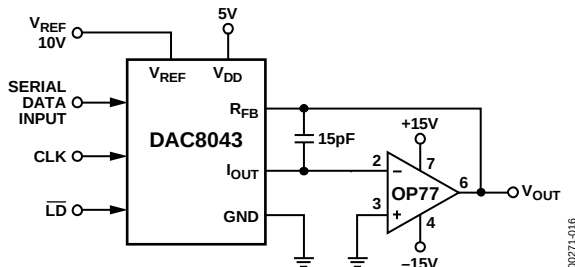
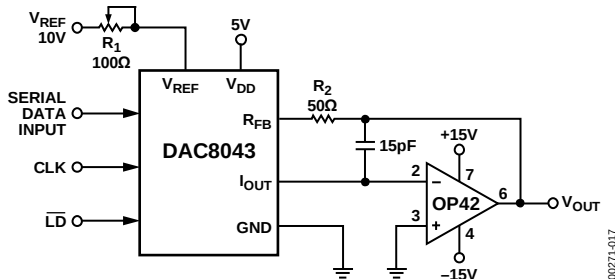
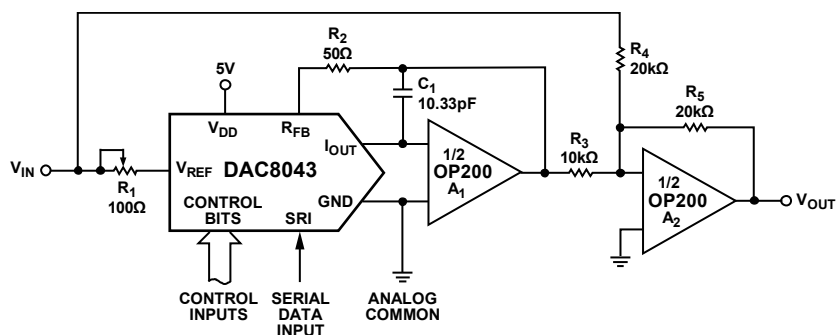

Figure 16. Unipolar Operation with High Accuracy Op Amp (2-Quadrant)
Figure 17. Unipolar Operation with Fast Op Amp and Gain Error Trimming (2-Quadrant)
Figure 19. Bipolar Operation (4-Quadrant, Offset Binary)
1. Phase compensation (see Figure 16 and Figure 17).
In most applications, linearity depends upon the potential of the I_{OUT} and GND pins being equal to each other. In most applications, the DAC is connected to an external op amp with its noninverting input tied to ground (see Figure 16 and Figure 17). The amplifier selected should have a low input bias current and low drift over temperature. The amplifier's input offset voltage should be nulled to less than 200 μ V (less than 10% of 1 LSB).
The circuits shown in Figure 16 and Figure 17 may be used with an ac or dc reference voltage. The output of the circuit ranges between 0 V and approximately $-V_{REF}$ (4095/4096), depending upon the digital input code. The relationship between the digital input and the analog output is shown in Table 6. The limiting parameters for the V_{REF} range are the maximum input voltage range of the op amp or ± 25 V, whichever is lowest.
Gain error may be trimmed by adjusting R_1 , as shown in Figure 17. The DAC register must first be loaded with all 1s. R_1 may then be adjusted until $V_{OUT} = -V_{REF}$ (4095/4096). In the case of an adjustable V_{REF} , R_1 and R_2 may be omitted, with V_{REF} adjusted to yield the desired full-scale output.
¹ Nominal full scale for Figure 16 and Figure 17 circuits is given by
² Nominal LSB magnitude for Figure 16 and Figure 17 circuits is given by
Figure 19 details a suggested circuit for bipolar, or offset binary, operation. Table 7 shows the digital input to analog output relationship. The circuit uses offset binary coding. Twos complement code can be converted to offset binary by software inversion of the MSB or by the addition of an external inverter to the MSB input.
Digital Input MSB LSB	Nominal Analog Output (V_{OUT} as Shown in Figure 19)
¹ Nominal full scale for Figure 19 circuits is given by
² Nominal LSB magnitude for Figure 19 circuits is given by
The transfer function for the DAC8043 connected in the multiplying mode, as shown in Figure 16, Figure 17, and Figure 19, is